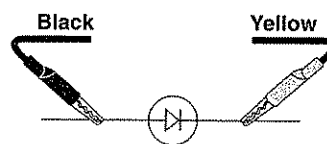

Fig. 2
5) Reverse test lead connections as shown in Figure 2.